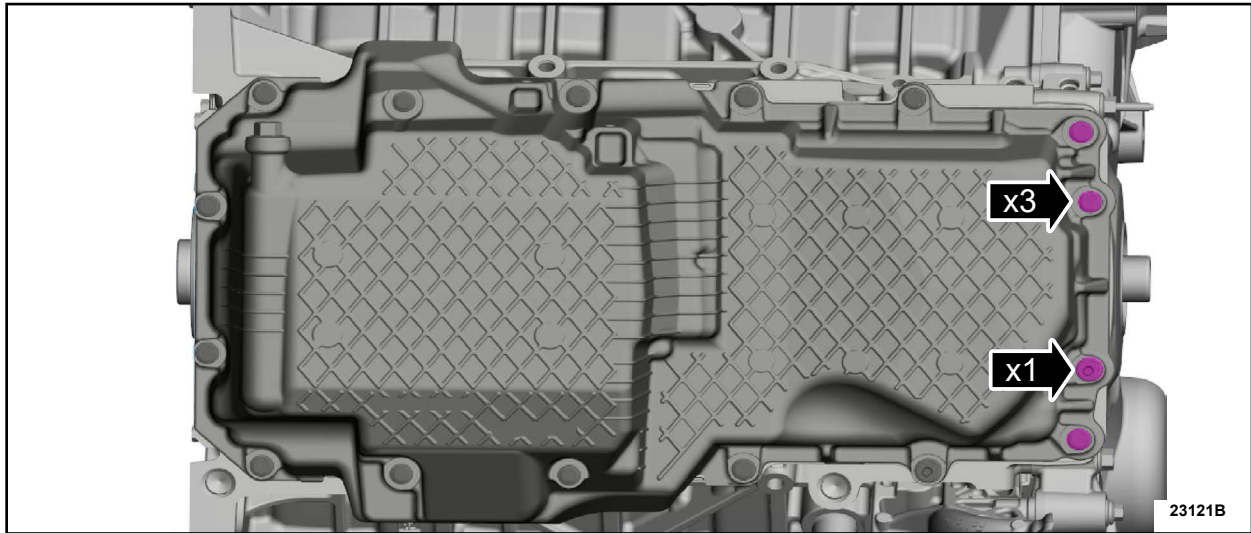

FIGURE 7
20. Remove the four oil pan to engine front cover fasteners. See Figure 7.